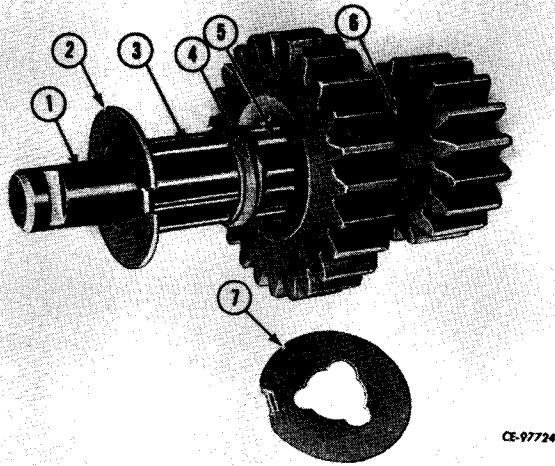

Figure 4-65
Use shaft (1, Fig. 4-65) to aid assembly of this reverse idler gear (6). Install roller bearings (5), bearing spacer (4), roller bearings (3) and position thrust washers (2, 7) on each end of gear (6).